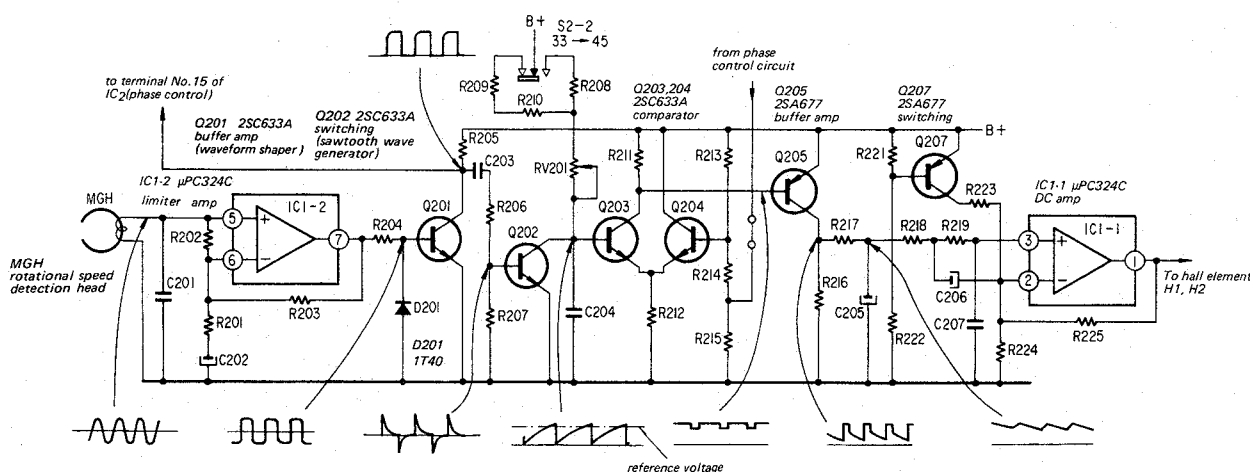

Fig. 1-1.
1. Operation of Servo Amplifier Circuit (See Fig. 1-1)